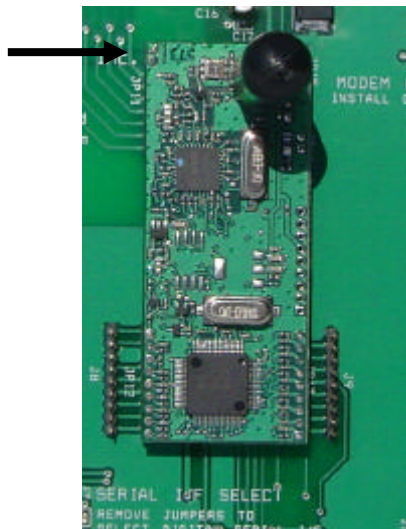

Figure 4 Pin 1 location
STEP 4: Copeland Communications ships all evaluation kits with the modems populated on the board already. To reinsert a removed modem or to exchange for another, be sure to connect pin 1 of the module to pin 1 of the Evaluation Board. (Pin 1 is located on the JP11 connector, shown by the arrow in Figure 4).